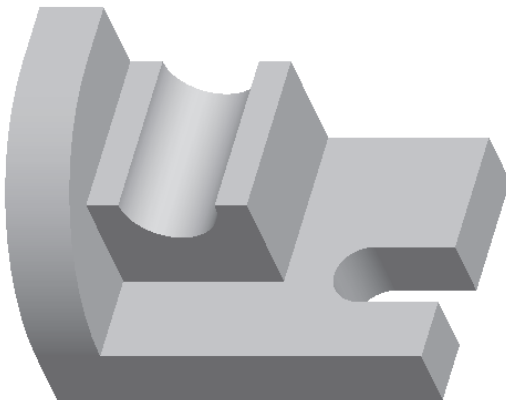

Figure 4-86 Model with the second extruded feature
6. Choose the **Build feature** button from the **Extrude** dashboard to confirm the feature creation. The default view that is displayed when you choose the **Default Orientation** option from the **Saved view list** button is shown in Figure 4-86.